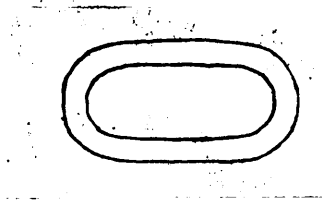

Figure 4.
8. After rounding out the weld, then heat the entire link uniformly and shape the link. True up the curves on the horn, and see that center sections are straight and parallel to each other. (Figure 4).